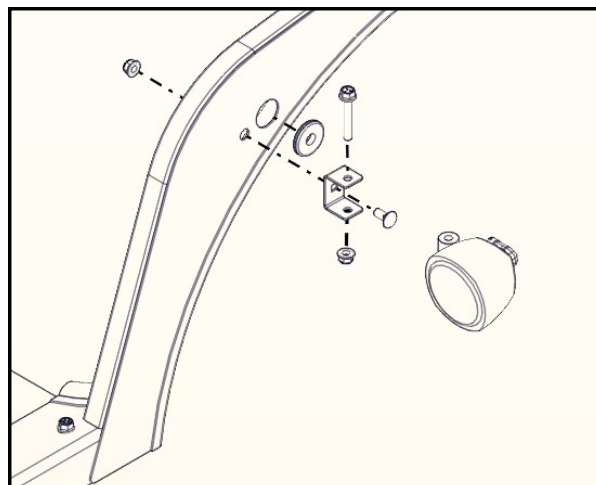

Fig. 24.5 (Fender Light Installation)
**24.5** Mount the supplied light brackets to the outside of the side frames. See Fig. 24.5. Do not tighten at this time.